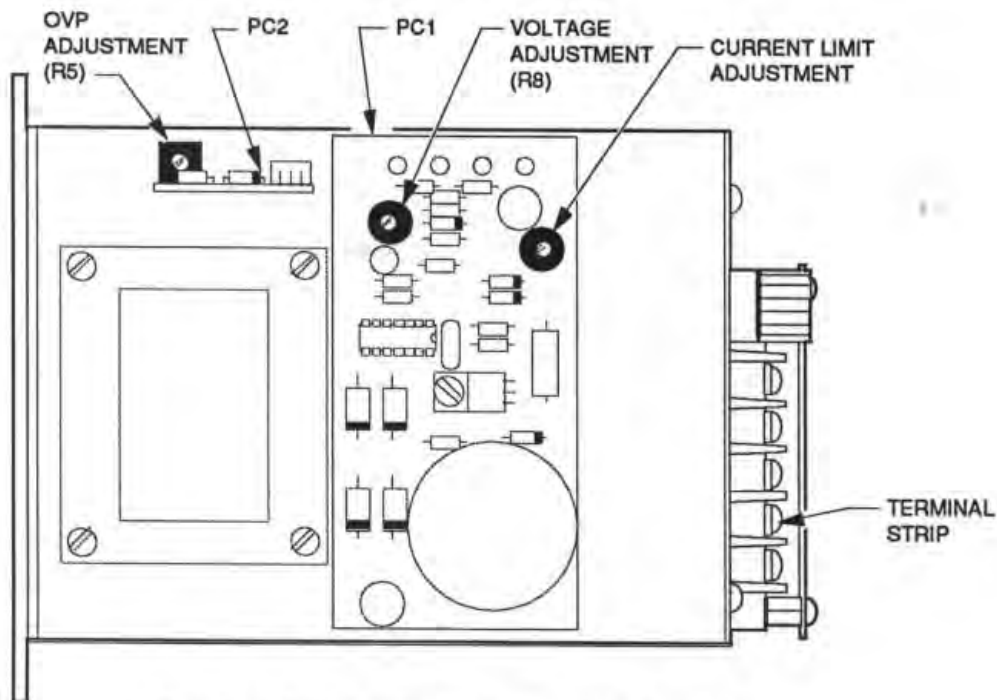

Figure 1. SMP Adjustment Locations (Version A)
Two versions of the power supply board (PC1) exist. The specifications are identical for both versions. The physical location of the adjustments and board layout are different. Figures 1 and 2 show the locations of the adjustments for both versions of PC1.
4. While monitoring the output, adjust Voltage Adjustment, R8 or R9 (see figure 1 or 2) on PC1 until output is at appropriate level.
The OVP Option causes the output of the SMP to clamp to approximately 1 volt should the output rise above a pre-set voltage. Table 3 contains the factory-set over-voltage settings for each power output rating. This setting is adjustable with the OVP Adjustment, R5 on PC2. See figures 1 and 2 for the location of PC2 and the OVP Adjustment, R5.
2. Locate OVP Adjustment, R5 (see figure 1 or 2), and set it fully clockwise.